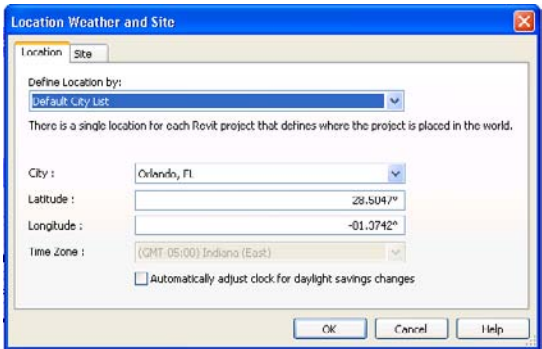

Figure 9.6
- 12. Click the Browse button to the right of the location. This will take you to the Location Weather And Site dialog box. Set the Define Location By option to Default City List, and then set City to **Orlando, FL** (Figure 9.6). Click OK to close this dialog box.